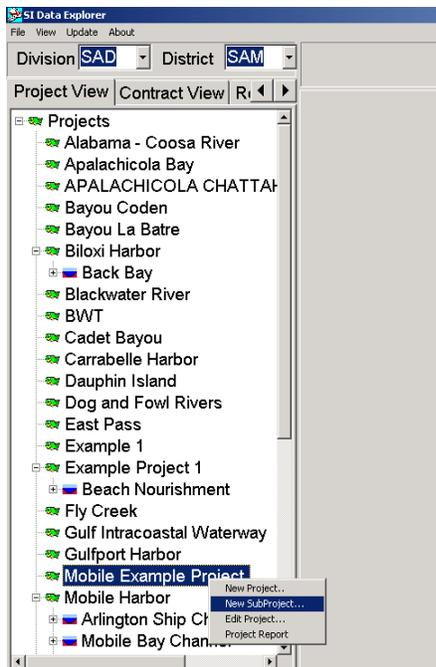

Figure 1.6. Right-Click on the new project and select **New SubProject**.
1. Right click on the project as shown in Figure 1.6.
1. Right-click on the project and select **New SubProject** as seen in Figure 1.6.